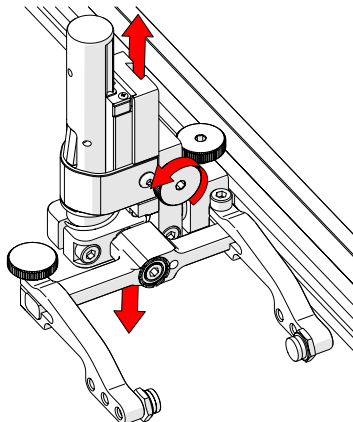

Fig. 106 - Vertical adjustment
2. Vertical adjustment knob allows the vertical probe holder height adjustment (Fig. 106).